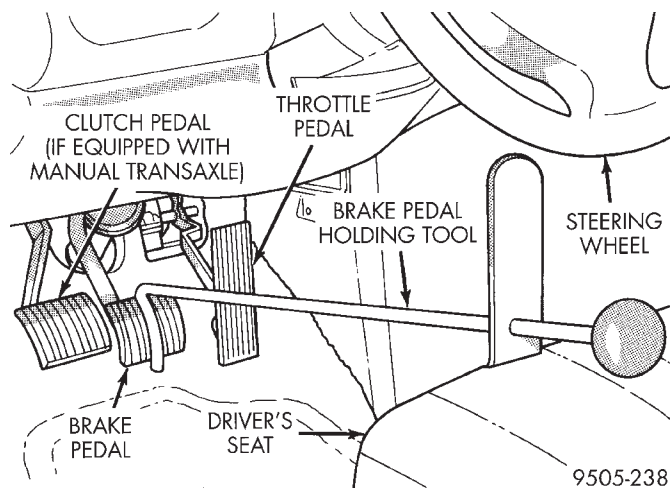

Fig. 10 Brake Pedal Holding Tool Installed
(3) Using a brake pedal positioning tool such as shown in (Fig. 10) depress brake pedal past its first 1 inch of travel and hold in this position. This will isolate the master cylinder reservoir from the brake hydraulic system, not allowing the brake fluid to drain out of the reservoir.